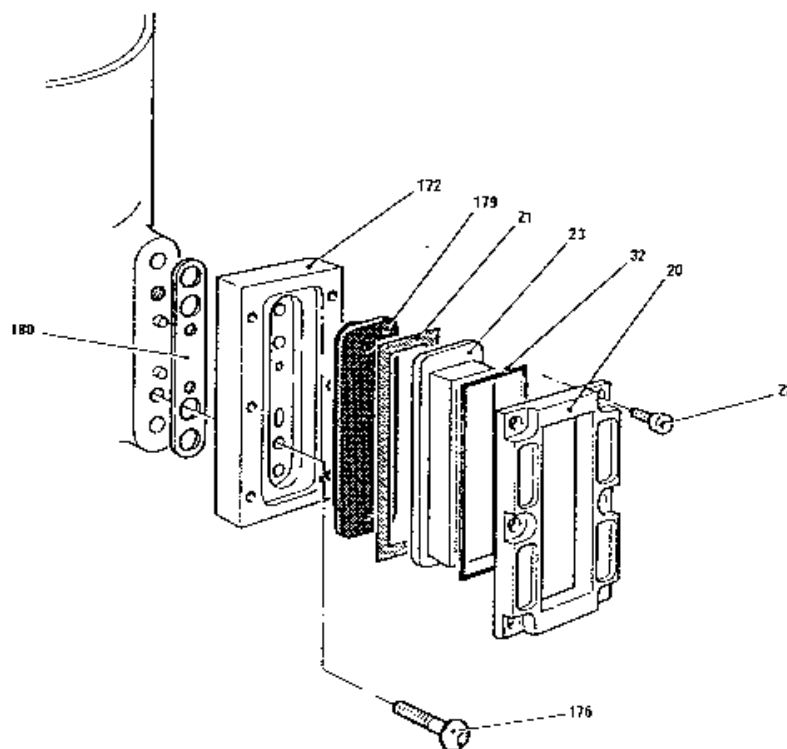

Fig. 3.8 Window Body Removal - Keyed Filler
3.4.2 Keyed Filler (Figs. 3.8 And 3.9)